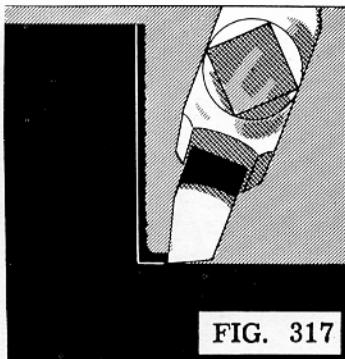

FIG. 317
13. Disengage the automatic feed just before the tool reaches the corner (Fig. 317). Use the hand feed and move the work toward the tool slowly. Tap the handcrank lightly with the palm of the hand to control to best advantage the amount of feed per stroke (Fig. 318).